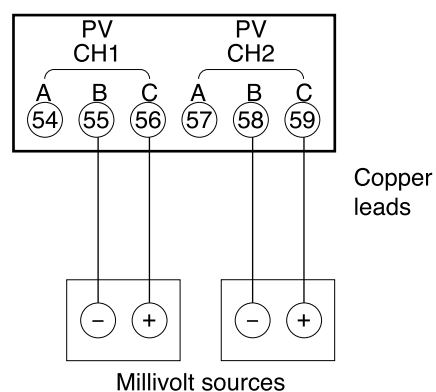

Figure 12-10. CJ, Q Sensor
- (1) Press **SETUP key** until the PROG/SEG display shows (02-01).
- (2) Connect the millivolt source between (55)(-) and (56)(+), and then input 0.2V (See Figure 12-10).
- (3) Press **ENTER key** after display stabilizes, AD count is shown on lower display.
- (1) Press **SETUP key** until the PROG/SEG display shows (02-02).
- (2) Connect the millivolt source between (55)(-) and (56)(+), and then input 1.0V (See Figure 12-10).
- (1) Press **SETUP key** until the PROG/SEG display shows (02-05).
- (2) Connect the millivolt source between (58)(-) and (59)(+), and then input 0.2V (See Figure 12-10).
- (1) Press **SETUP key** until the PROG/SEG display shows (02-06).
- (2) Connect the millivolt source between (58)(-) and (59)(+), and then input 1.0V (See Figure 12-10).